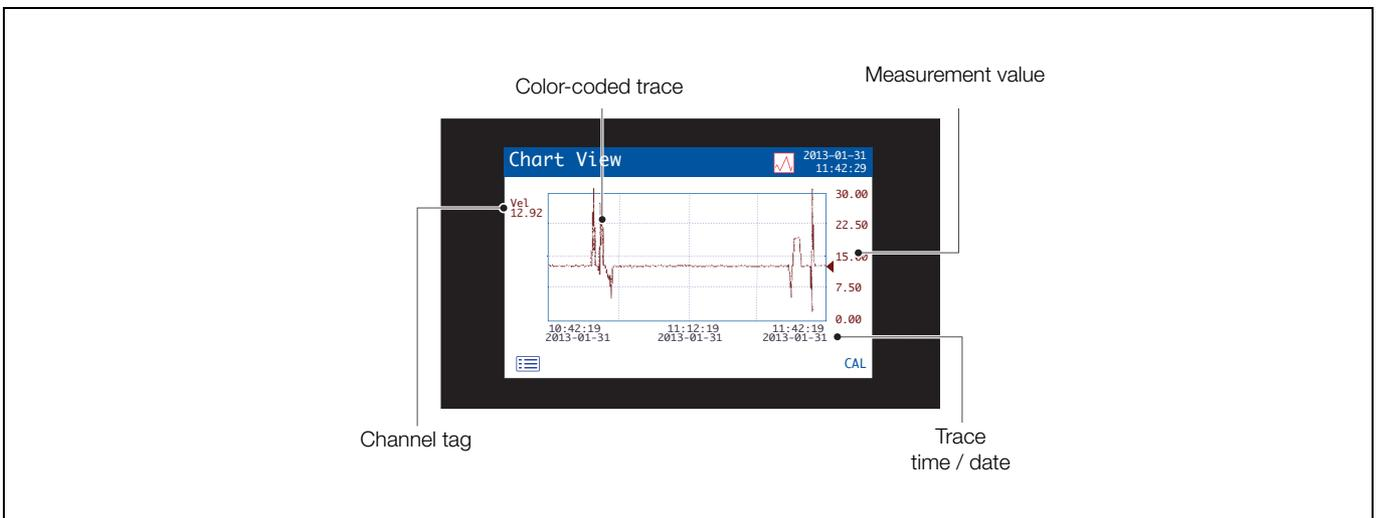

Fig. 9.10 Chart view
- *Chart View*: used to represent the probe readings as a color-coded trace – see Fig. 9.10.